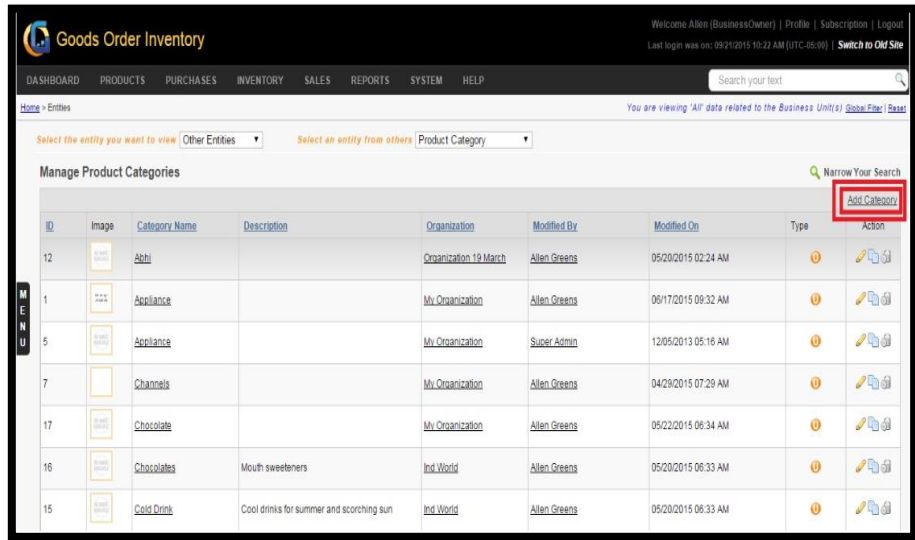

FIGURE 6.16.2
Step 1: Click on the Add Category link on the right corner as marked in the (Figure 6.16.2).